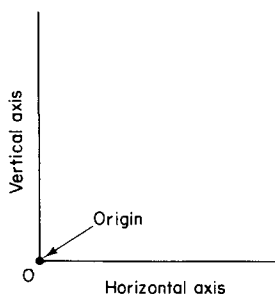

Fig. 1.54 Axes of reference
**Axes of reference.** In drawing a graph we first draw two lines at right angles to each other (Fig. 1.54). These lines are called the *axes of reference*. Their intersection (the point O) is called the *origin*.